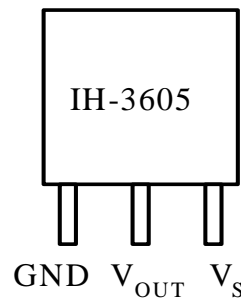

Figure 12.16 Honeywell IH-3605 humidity sensor
- Pin assignment is shown in Figure 12.16.